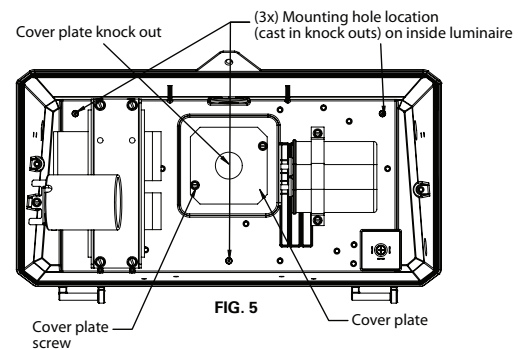

FIG. 5
**6.** Ensure all electrical components and wiring are clear from area then drill three through holes using 1/4" drill bit **FIG. 5**.
**8.** Remove cover plate in housing by removing two [2] screws and remove cover plate knock-out **FIG. 5**.